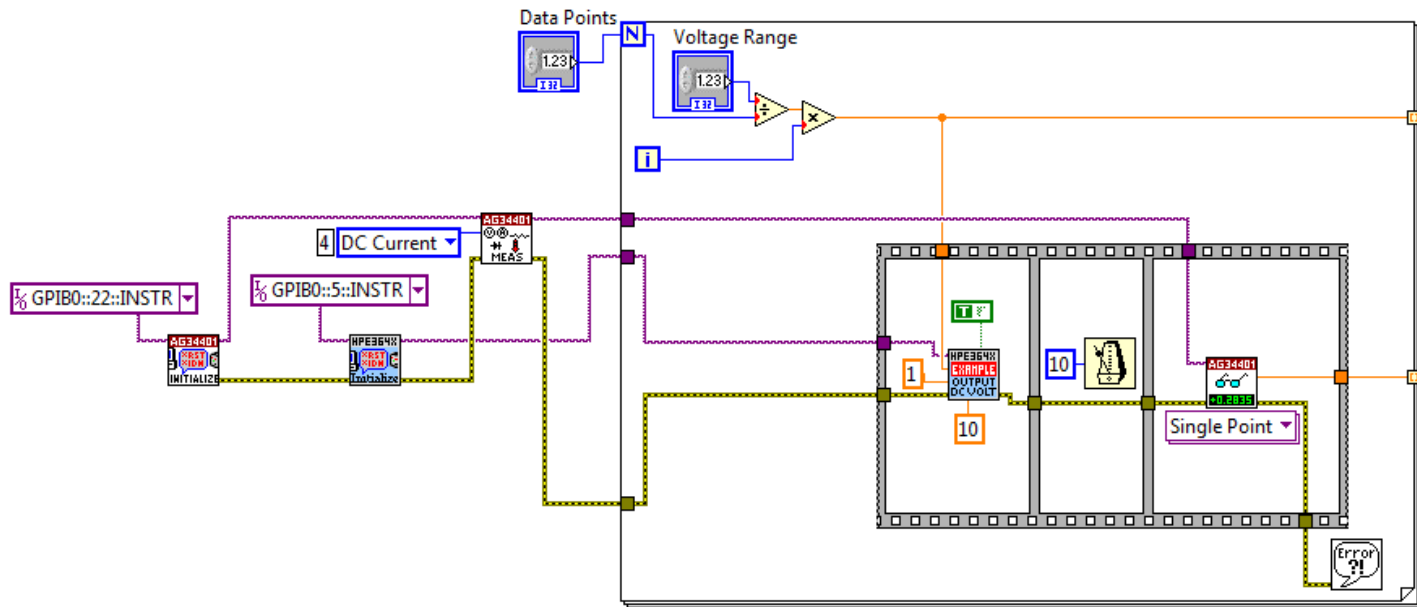

Figure 11. Diagram Schematic
- b. At this point your diagram should be similar to that shown in Figure 11.